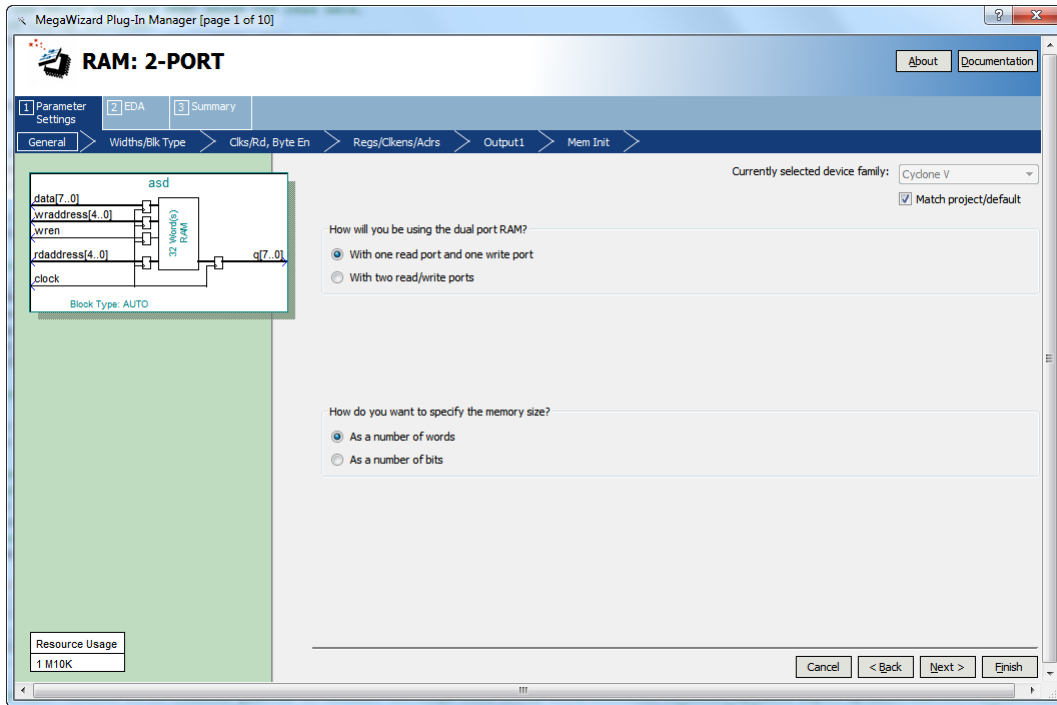

Figure 4: Configuring the two input ports of the RAM.
1. Create a new Quartus II project for your circuit. To generate the desired memory module open the IP Catalog and select the *RAM: 2-PORT* module in the Basic Functions > On Chip Memory category. As shown in Figure 4, choose With one read port and one write port in the category called How will you be using the dual port ram?